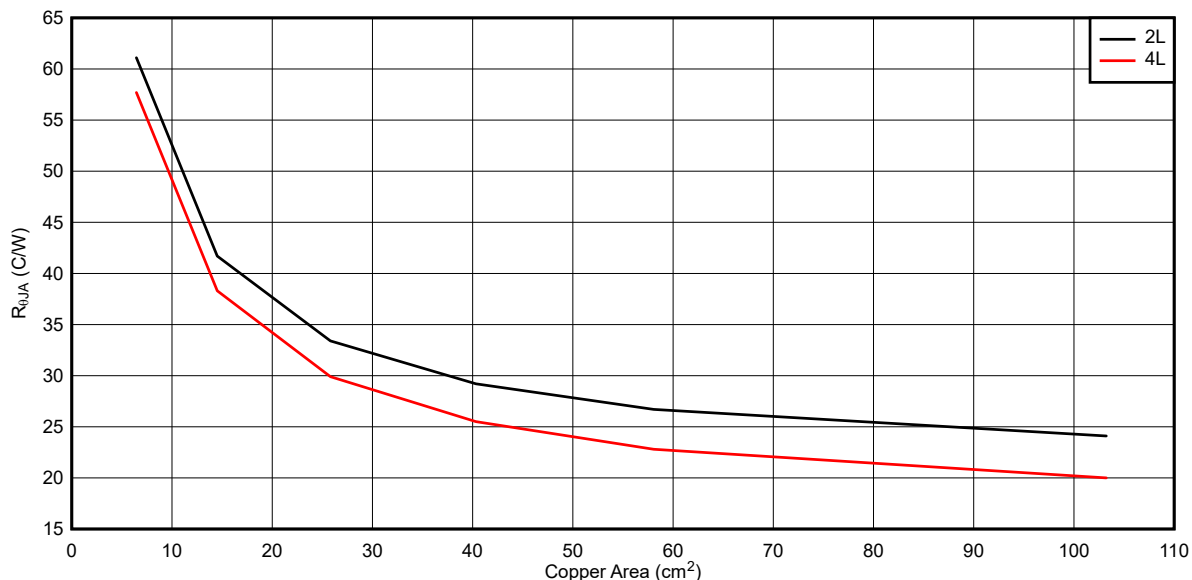

图 9-15. Typical  $R_{\theta JA}$  vs Copper Area
The LM5013 features a die attach paddle, or "thermal pad" (EP), to provide a place to solder down to the PCB heat-sinking copper, which provides a good heat conduction path from the regulator junction to the heat sink and must be properly soldered to the PCB heat sink copper. Typical examples of  $R_{\theta JA}$  can be found in Figure 9-15. The copper area given in the graph is for each layer. The top and bottom layers are 2-oz. copper each, while the inner layers are 1 oz. Remember that the data given in this graph is for illustration purposes only, and the actual performance in any given application depends on all of the previously mentioned factors.
To continue with the design example, assume that the user has an ambient temperature of 70°C and wishes to estimate the required copper area to keep the device junction temperature below 125°C, at full load. From the curves in Application Curves, an efficiency of about 92% was found at an input voltage of 48 V with output of 12 V with 1.75-A load. The efficiency is somewhat less at high junction temperatures, so an efficiency of approximately 90% is assumed, which gives a total loss of approximately 2.3 W. Subtracting out the conduction loss alone for the inductor and catch diode, the user arrives at a device dissipation of approximately 1.54 W. With this information, the user can calculate the required  $R_{\theta JA}$  of about 30°C/W. Based on Figure 9-15, the required copper area is approximately 40 cm2 for a two-layer PCB.